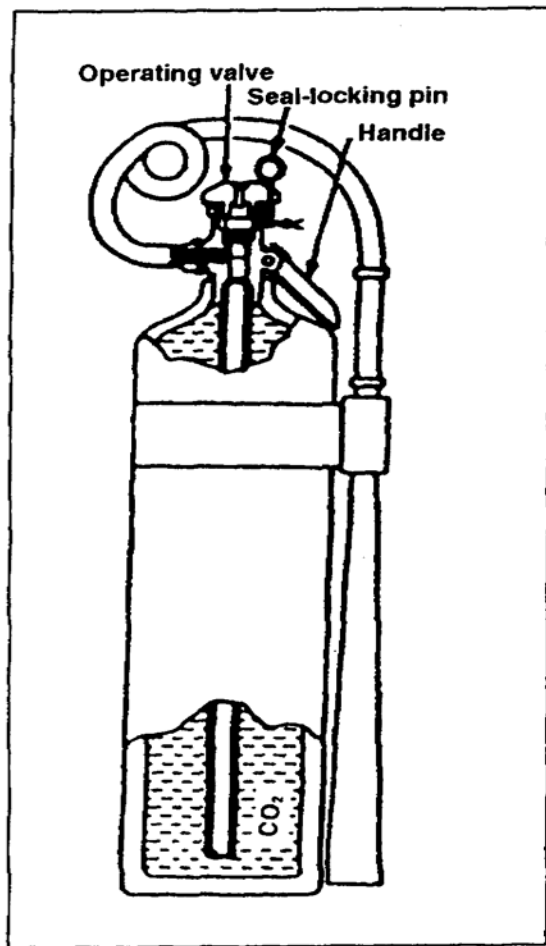
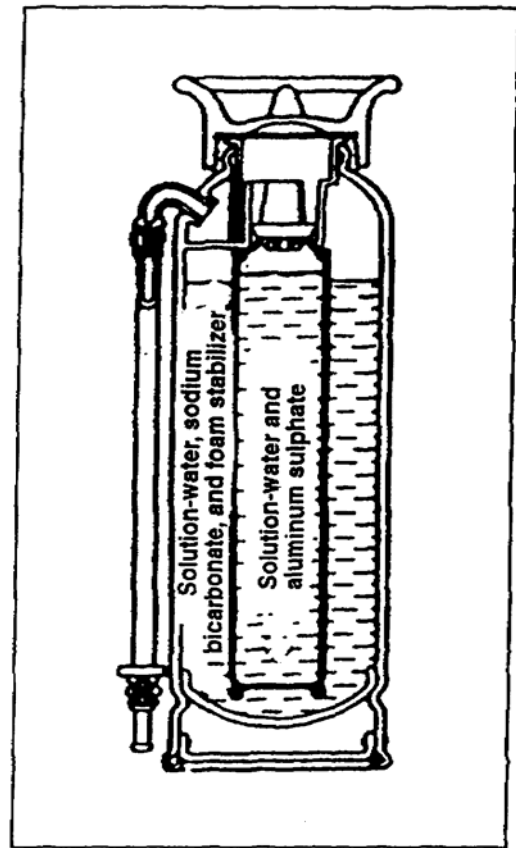

Figure 1-22. CO₂ fire extinguisher
Figure 1-23. Foam fire extinguisher
(1) CO₂ extinguishers (Figure 1-22, page 1-31) may be used on Class B and C fires. To operate a CO₂ extinguisher, pull the seal locking pin and open the operating valve. Direct the CO₂ toward the base of the fire with a sweeping motion.
(2) Dry chemical extinguishers may be used on Class B and C fires. These units contain a dry powder, usually sodium bicarbonate, and an activating agent of CO₂ or nitrogen gas. Do not use these units on trash fires. To operate the extinguisher, remove the locking pin, open the cartridge discharge valve, and squeeze the nozzle handle.
(3) Foam extinguishers (Figure 1-23, page 1-31) may be used on Class A and B fires. For a fire involving liquids, invert the extinguisher and direct the hose so that the foam is played over the surface of the fire. In a solid-material fire, direct the stream of foam to fall lightly on or flow over the burning surface of the material.